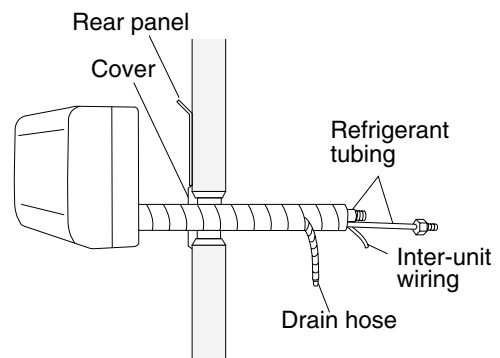

Fig. 3-42
- (1) Shape the refrigerant tubing so that it can easily go into the wall hole. (Fig. 3-42)